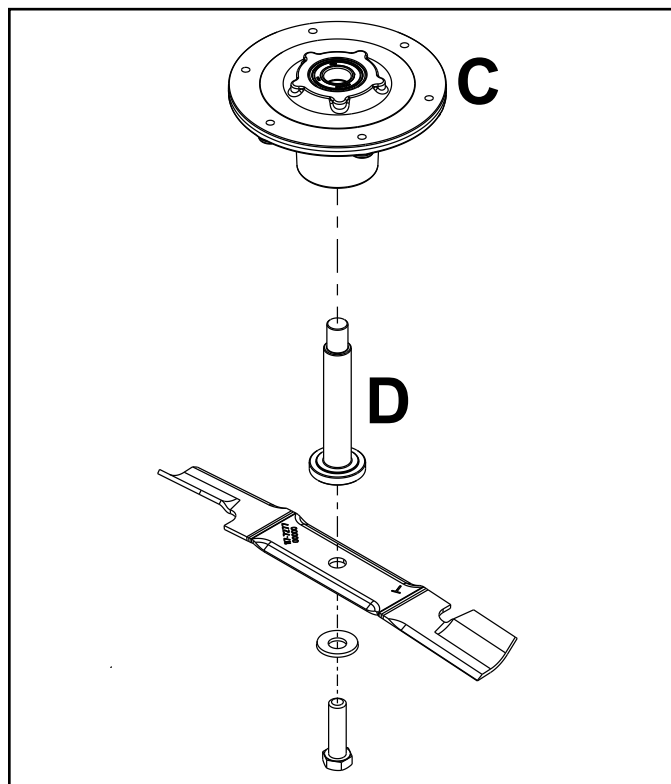

Fig. 097
3. Remove spindle shaft (D) from spindle assembly. Inspect for excessive wear and replace if necessary.
4. Use an appropriate punch or bearing extractor to remove the (2) bearings (A) from the spindle housing.
5. Inspect bearing spacer (B) for wear and replace if necessary.
6. Clean and inspect spindle housing (C) bearing bores for excessive wear and replace if necessary.
- (Fig. 097)